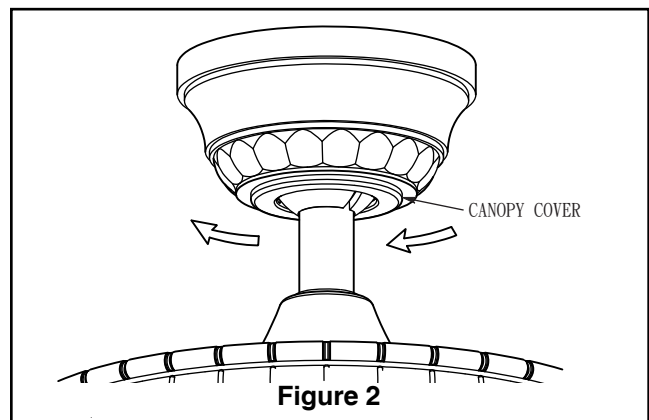

Figure 2
- ☐ 2. Securely attach and tighten the canopy screw cover over the shoulder screws in the hanger bracket utilizing the keyslot twist-lock feature (Figure 2).